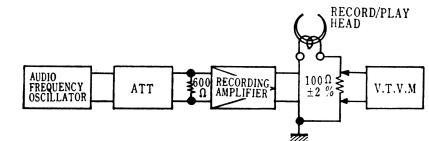

Fig. 22
- Measuring Circuit Refer Fig. 22
- A. As shown in Fig. 22 connect output of Audio Frequency Oscillator to Microphone Input Jack of RQ-300S, through attenuator (terminate with 600 Ω it impedance of attenuator is 600 Ω). Disconnect wiring from terminal of head insert 100 Ω resistor between lead wire and connect VTVM across resistor.